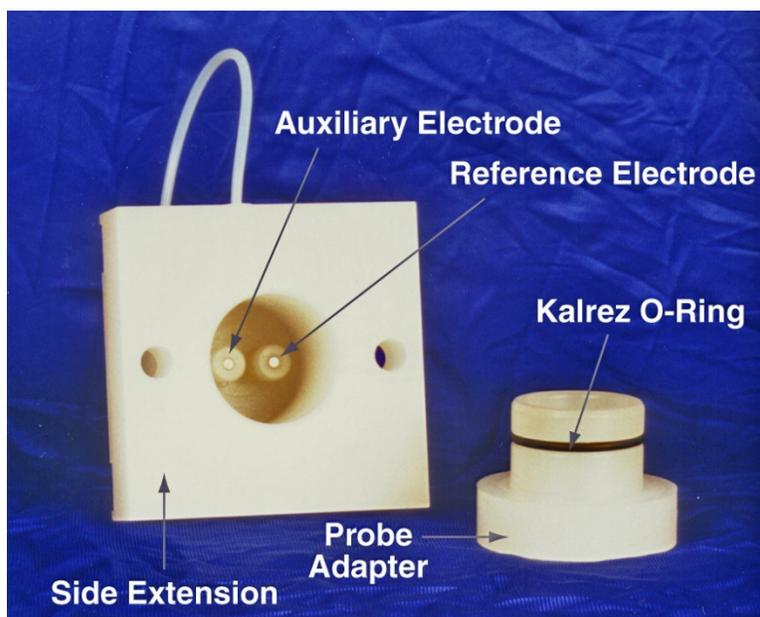

Figure 7. Disassembled Hydrogen Patch Probe
To install the HPP, complete the following procedures. Refer to Figures 7 and 8 for location and orientation of probe components.
The two 3/8" diameter holes located on the probe's side extensions (see Figure 7) permit the probe to be mounted on threaded studs when the diameter of the vessel exceeds that of the largest available band clamps.
9. Position the probe adapter/main body assembly over the Teflon®/Viton® gasket assembly so that the probe adapter holds the gasket assembly in place and the probe's vent (see Figure 7) points up.